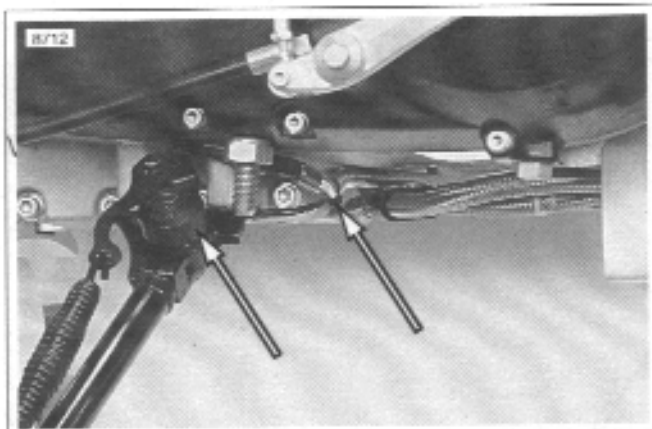

Figure 3-57. Sidestand Assembly and Switch with Cable Strap
35. See Figure 3-57. Install sidestand assembly.